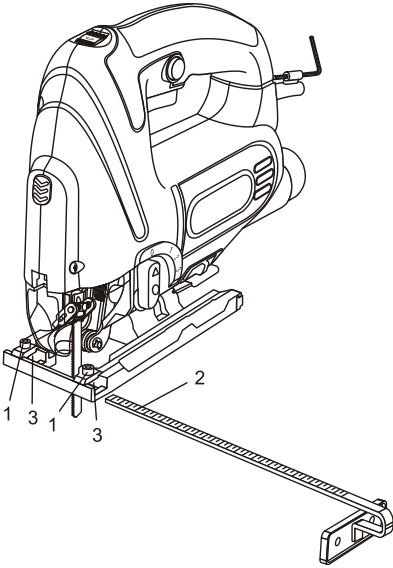

Fig. 3
1. Loosen the two edge guide mounting screws (1) (Fig. 3).
2. Insert the edge guide (2) into the edge guide mounting slots (3) in the sole plate.